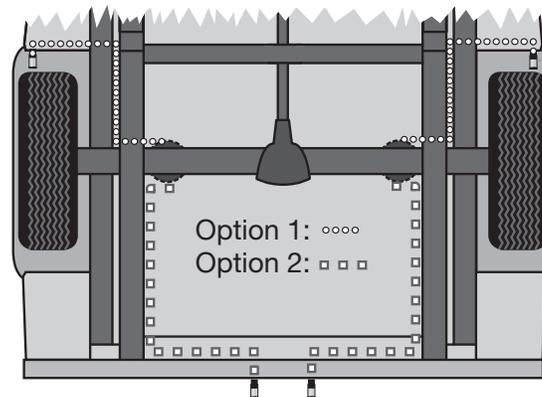

fig. 13
4. Place a 5/16" nut and star washer on the air valve. Leave enough of the inflation valve in front of the nut to extend through the hole and have room for the rubber washer, flat washer, and 5/16" nut and cap. There should be enough valve exposed after installation – approximately 1/2" (13mm) – to easily apply a pressure gauge or an air chuck (Fig. 13).
6. Route the air line along the frame to the fitting on the air spring (Fig. 13). Keep AT LEAST 6" (152mm) of clearance between the air line and the exhaust system. Avoid sharp bends and edges. Use zip ties to secure the air line to fixed points along the chassis. Be sure that the tie straps are tight, but do not pinch the air line. Leave at least 2" (51mm) of slack to allow for any movement that might pull on the air line.